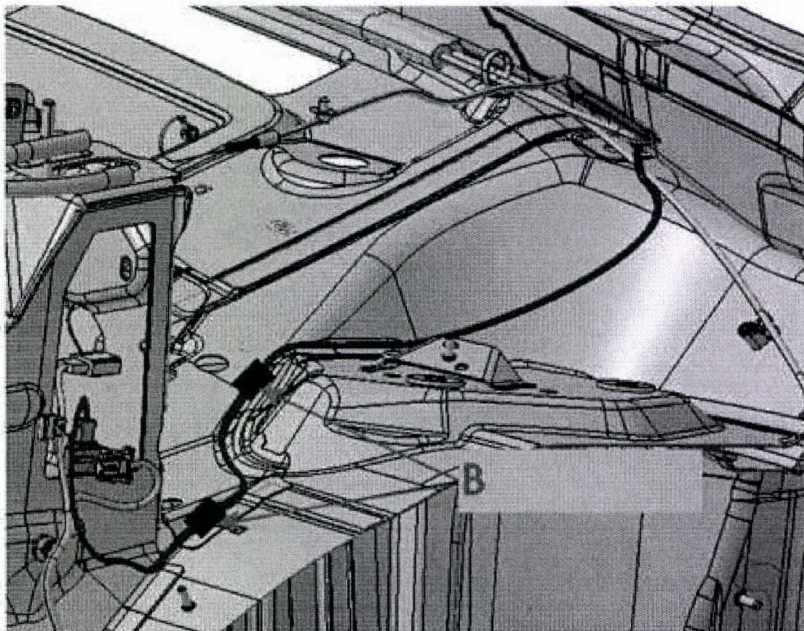
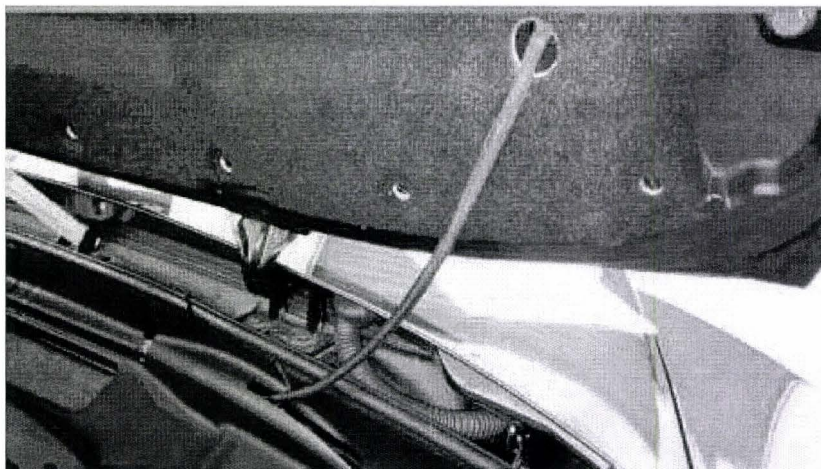

Figure 15
Figure 16
12. Follow the remaining refit procedure as contained in the workshop manual, taping down the high mounted stop lamp cable (B figure 15) to the painted body before fitting the new stowage compartment lower carpet (part number 3W7863479F) in the process (see Figure 16). Reference Rep. Gr 61 C flap Bowden cable – To remove and fit